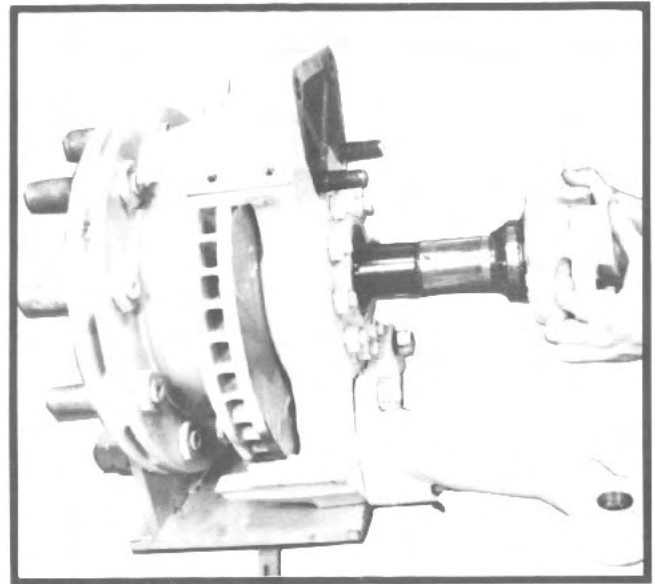

Fig. 15
2. Remove the yoke shaft retaining nut and lock-washer from the drive flange hub cap and withdraw shaft. Use care to avoid damage to sleeve bearing inside spindle (See fig. 15).